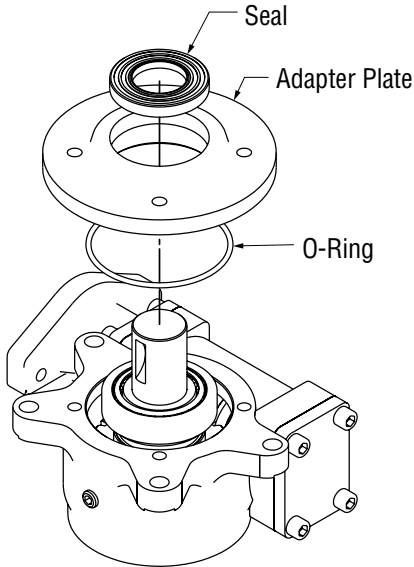

Figure 5-8, Output Shaft Seals
6. The output shaft seals may now be serviced. (Figure 5-8)